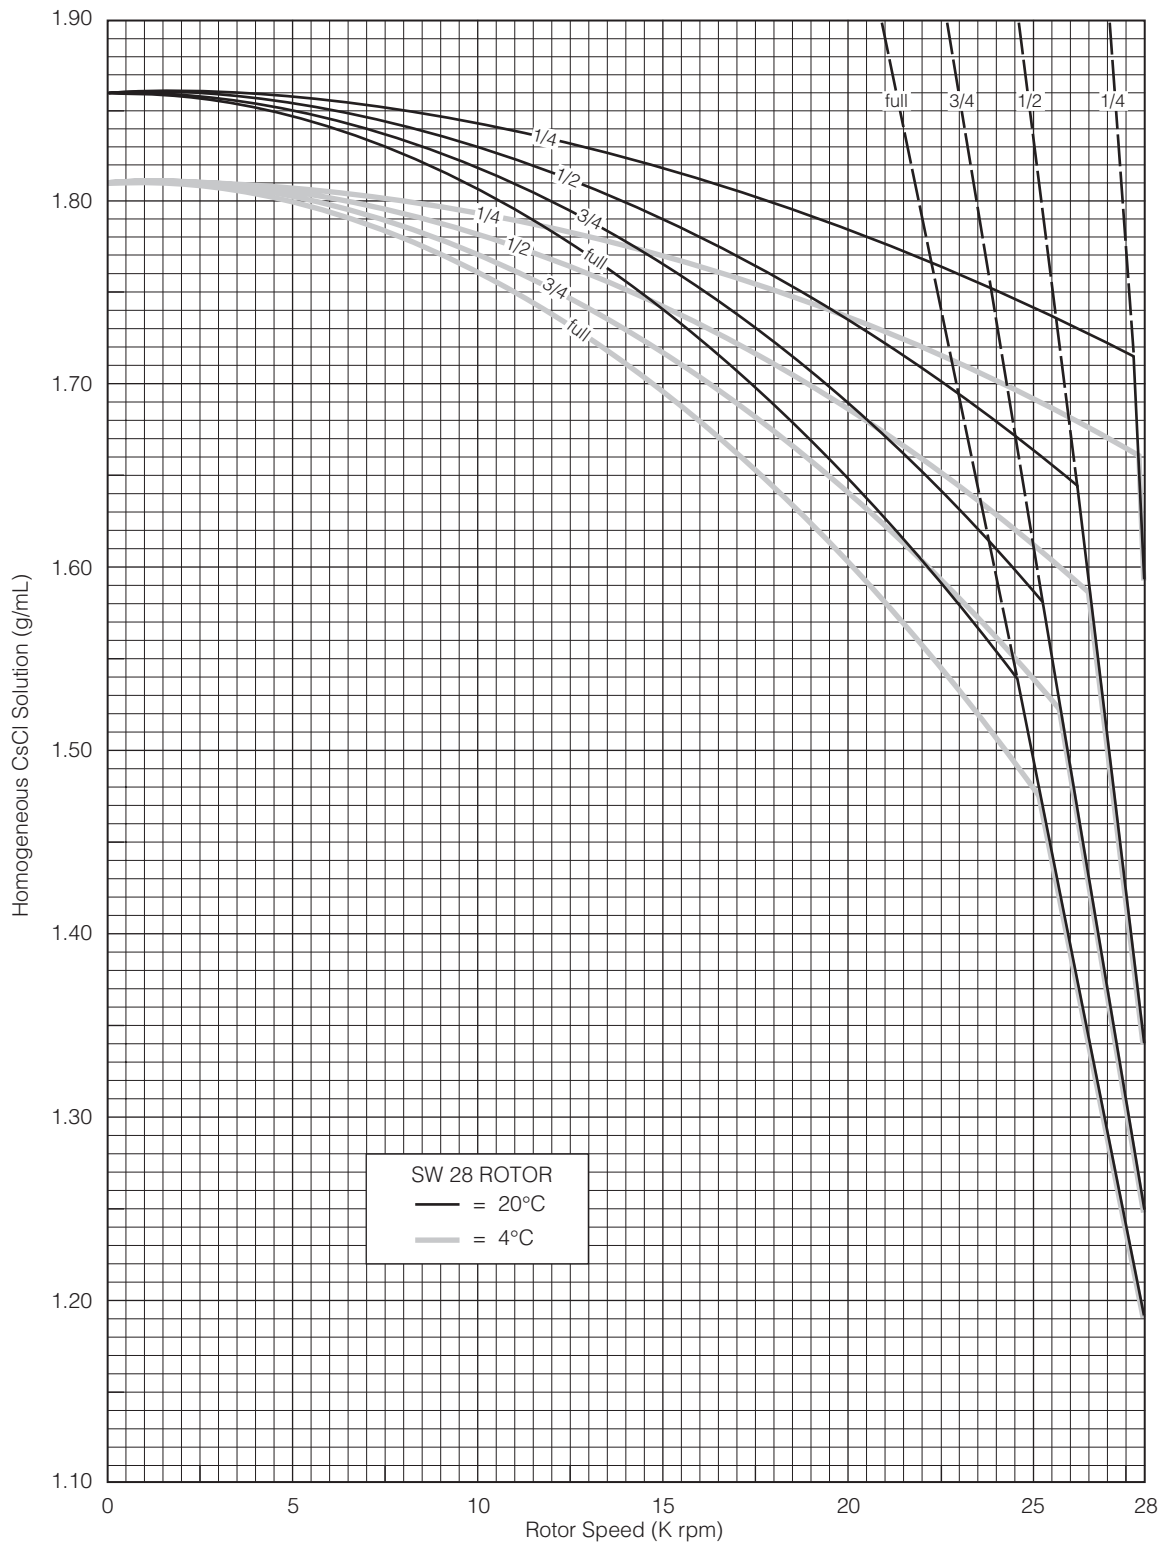
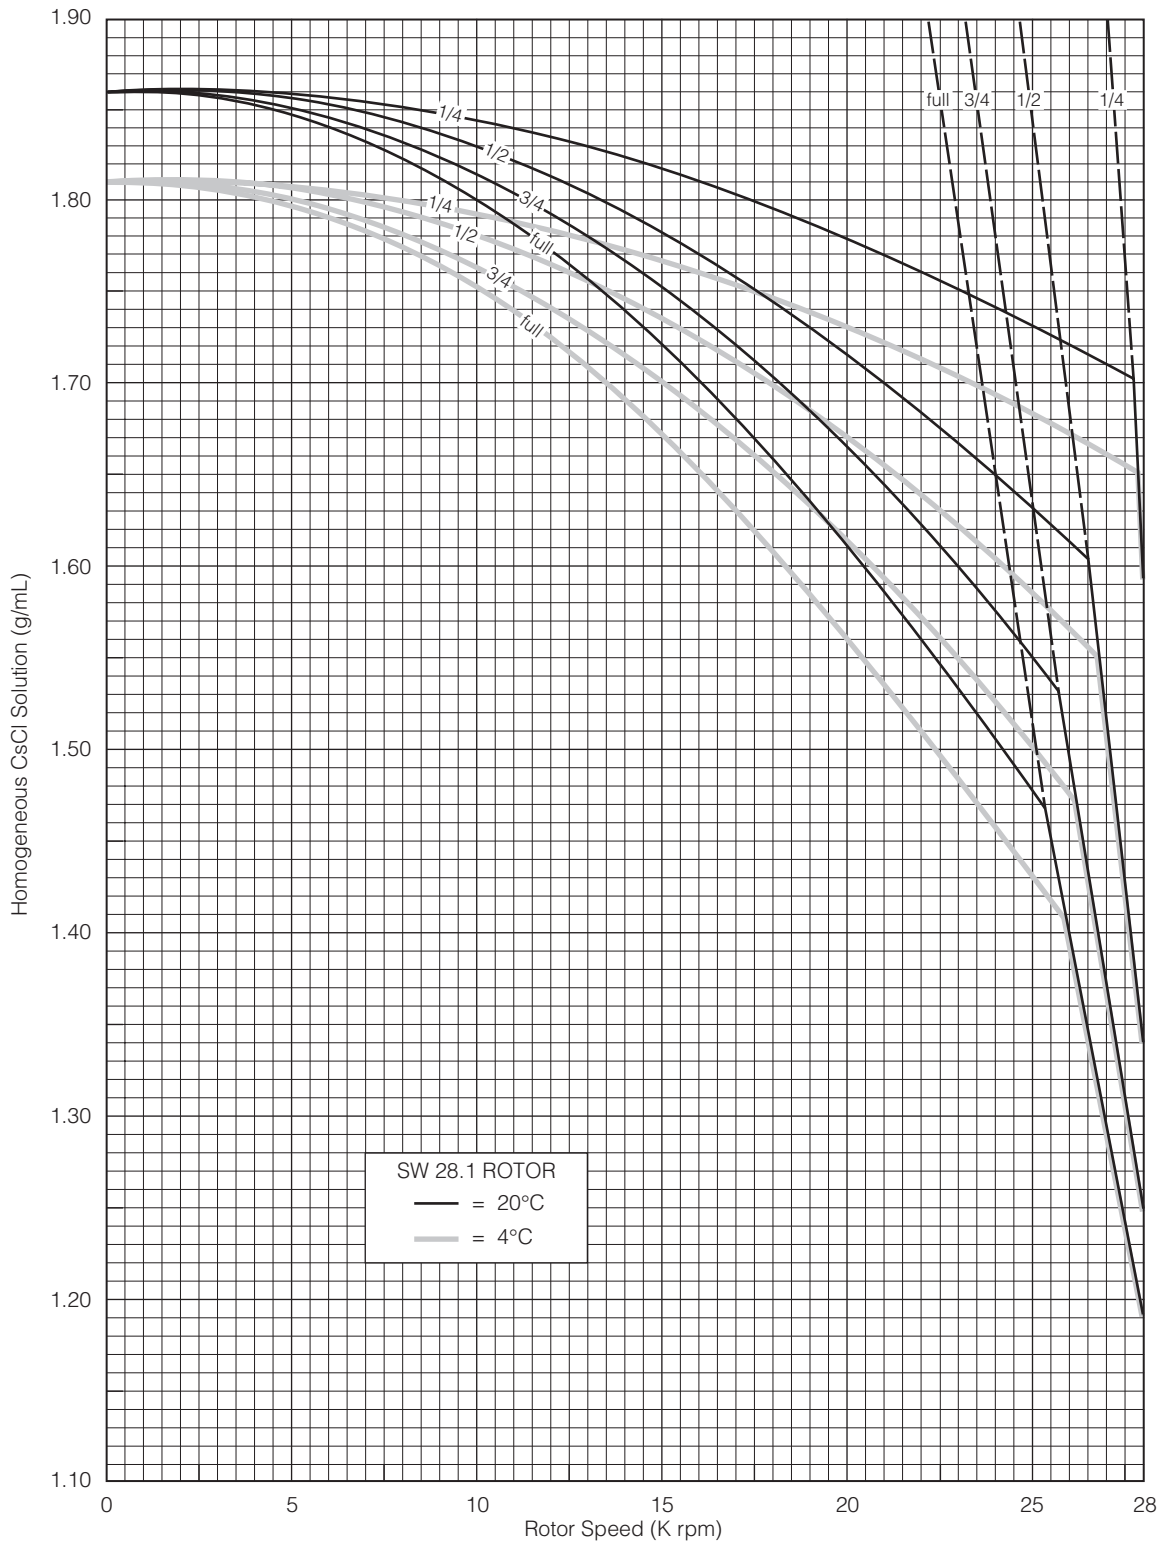

Figure 2. Precipitation Curves for the SW 28 Rotor.
Figure 4. Precipitation Curves for the SW 28.1 Rotor.
2. *Further speed limits must be imposed* when CsCl or other self-forming-gradient salts are centrifuged, as equation (6) does not predict concentration limits/speeds that are required to prevent precipitation of salt crystals. Solid CsCl has a density of 4 g/mL, and if precipitated during centrifugation may cause rotor failure. Figures 2 through 5, together with the description and examples below, show how to reduce run speeds when using CsCl gradients.
Rotor speed is used to control the slope of a CsCl density gradient, and must be limited to prevent CsCl precipitation during centrifugation. Speed and density combinations that intersect on or below the curves in Figure 2 (for the SW 28 rotor) and in Figure 4 (for the SW 28.1 rotor) ensure that CsCl will not precipitate during centrifugation in these rotors. Curves are provided at two temperatures: 20°C (black curves) and 4°C (gray curves). Curves in Figures 2 through 5 are provided up to the maximum speed of the rotor.
The curves in Figures 2 through 5 are for solutions of CsCl salt dissolved in distilled water only. If other salts are present in significant concentrations, the overall CsCl concentration may need to be reduced.
Figures 2 through 5 show that several fill volumes are possible in a tube. If a thinwall tube is partially filled with gradient solution, float mineral oil (or some other low-density, immiscible liquid) on top of the tube contents to fill the tube to its maximum volume. (Do not use an oil overlay in Ultra-Clear tubes.) Note that for a given CsCl density, as the fill level decreases the maximum allowable speed increases. Partial filling may be desirable when there is little sample or when you wish to shorten the run time.
Figure 3. CsCl Gradients at Equilibrium for the SW 28 Rotor. Centrifugation of homogeneous CsCl solutions at maximum allowable speeds (from Figure 2) results in gradients presented here.
Figure 5. CsCl Gradients at Equilibrium for the SW 28.1 Rotor. Centrifugation of homogeneous CsCl solutions at maximum allowable speeds (from Figure 4) results in gradients presented here.
For example, in the SW 28 rotor, a *quarter-filled* tube of 1.67-g/mL homogeneous CsCl solution at 4°C may be centrifuged at 26 000 rpm (see Figure 2). The segment of the 26 000 rpm curve (Figure 3) from the quarter-filled line to r_{\max} (the tube bottom) represents this gradient. The same solution in a *half-filled* tube may be centrifuged no faster than 20 000 rpm, and 17 000 rpm in a *three-quarter-filled* tube. A tube *full* of the 1.67-g/mL CsCl solution may be centrifuged no faster than 15 000 rpm. Curves not shown in the figures may be interpolated.
1. In Figure 2, find the curve that corresponds to the required run temperature (20°C) and fill volume (one-half full). The maximum allowable rotor speed is determined from the point where this curve intersects the homogeneous CsCl density (28 000 rpm).
4. From Figure 2, select the maximum homogeneous CsCl density (in this case, 1.56 g/mL) that corresponds to the temperature and run speed established above. These parameters will provide the particle-banding pattern selected in Step 2.